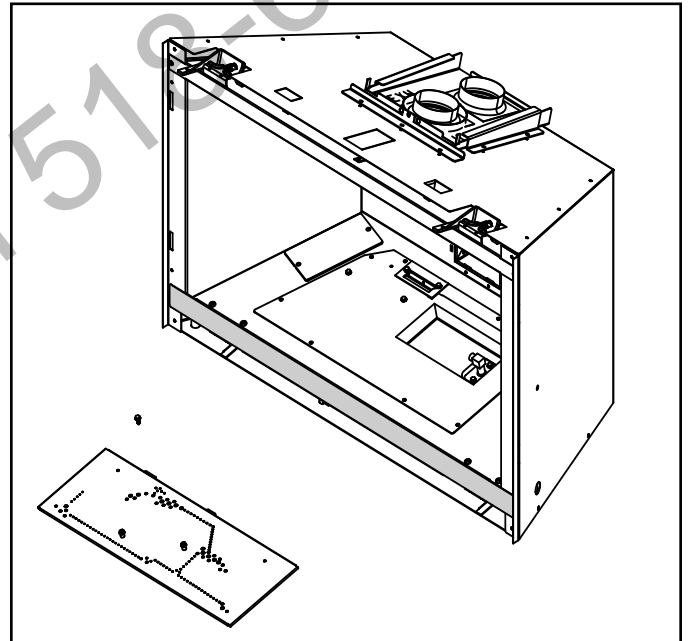

Figure 7 Remove Burner Assembly - Traditional
14. Remove the burner assembly by removing the screw located behind the burner. See Figure 7.